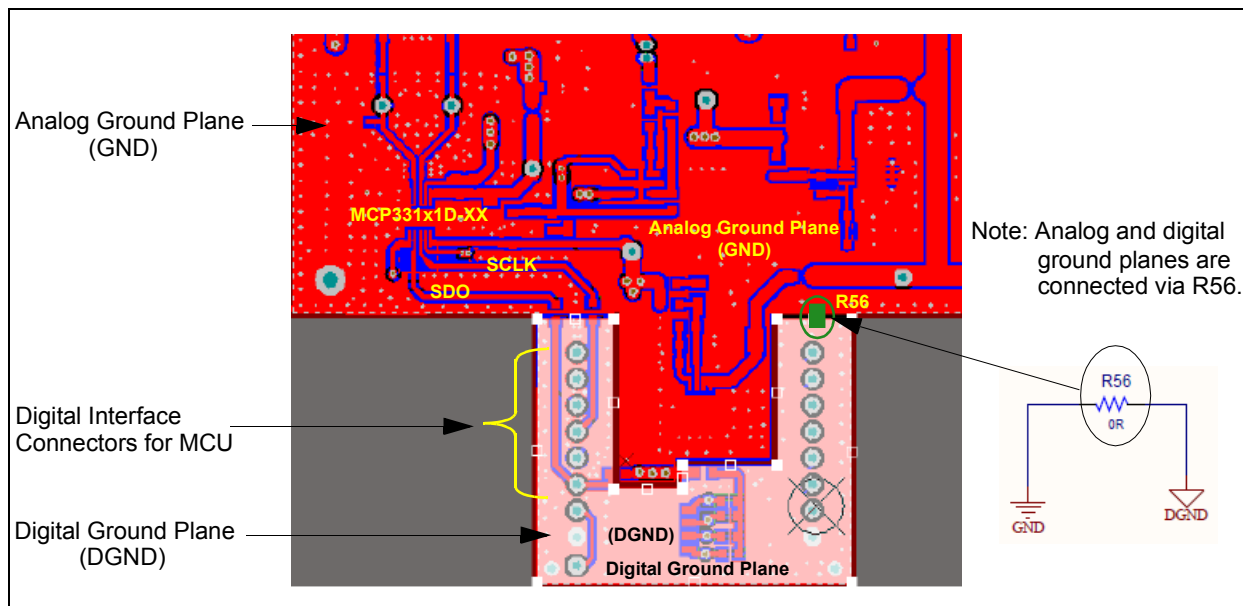

FIGURE 7-3: PCB Layout Example: Analog and Digital Ground Planes.
- Connect the analog and digital ground planes at a single point (away from the sensitive analog sections) with a 0Ω resistor or with a ferrite bead. See Figure 7-3 as an example of separated ground planes.
Figure 7-3 and Figure 7-4 show brief examples of the PCB layout. See more details of the schematics and PCB layout in the MCP331x1D-XX Evaluation Board User's Guide.